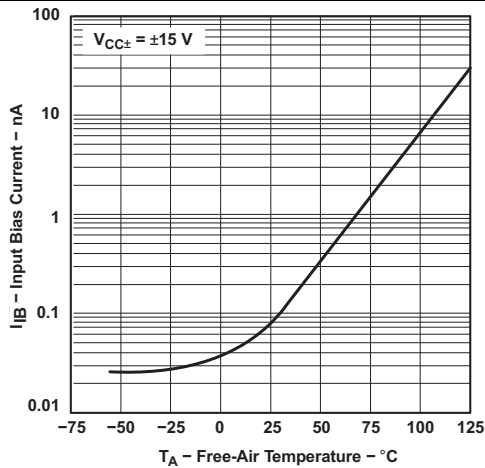

Figure 1. Input Bias Current vs Free-Air Temperature
- (1) All characteristics are measured under open-loop conditions with zero common-mode voltage, unless otherwise specified.
- (2) $T_A = -40^\circ\text{C}$ to 85°C .
- (3) Input bias currents of an FET-input operational amplifier are normal junction reverse currents, which are temperature sensitive, as shown in Figure 1. Pulse techniques must be used that maintain the junction temperature as close to the ambient temperature as possible.
- (1) Input bias currents of an FET-input operational amplifier are normal junction reverse currents, which are temperature sensitive, as shown in Figure 1. Pulse techniques that maintain the junction temperature as close to the ambient temperature as possible must be used.
- (2) All characteristics are measured under open-loop conditions with zero common-mode voltage, unless otherwise specified. Full range is $T_A = -55^\circ\text{C}$ to $+125^\circ\text{C}$.
- (2) All characteristics are measured under open-loop conditions with zero common-mode voltage, unless otherwise specified. Full range is $T_A = -55^\circ\text{C to } +125^\circ\text{C}$.